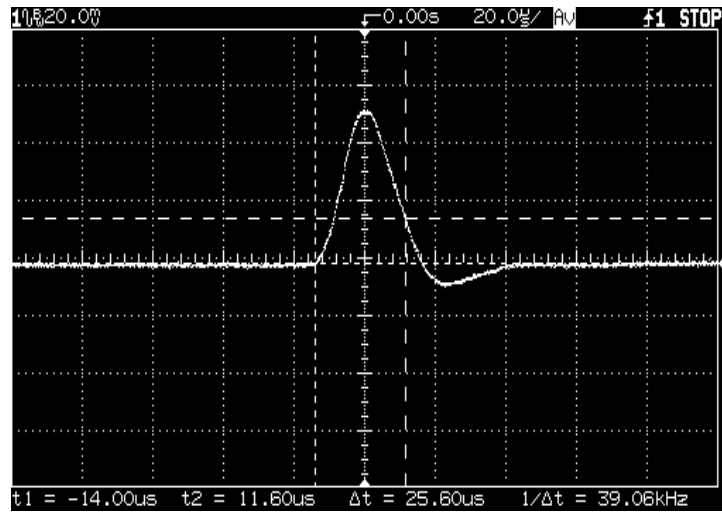

Figure 3-3. Transient Response Time
- 5 Adjust the oscilloscope to display transients as shown in Figure 3-3. Note that the pulse width ($t_2 - t_1$) of the transients at 15 mV from the base line is no more than 50 μ sec for the output.